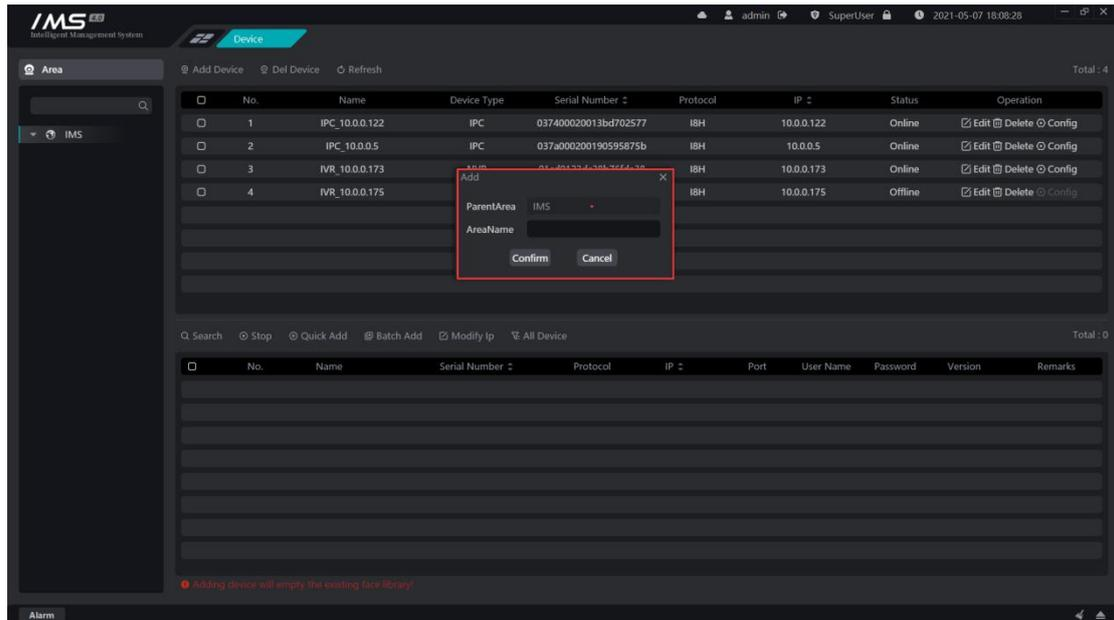

Figure 2-2
- 2 click [**+**]Open the add area page, as shown in figure 2-2.